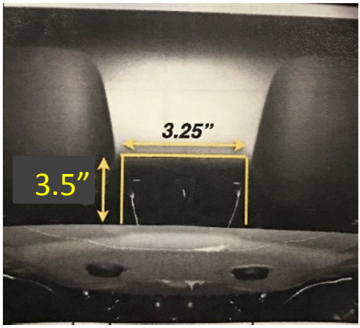

Figure 2
7.) Trim the fascia according to figure 2.